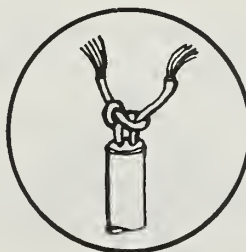

Fig. 5
5. Remove a half-inch of the insulation from the end of the wires. **Do not cut any of the small wires.** (Fig. 5)